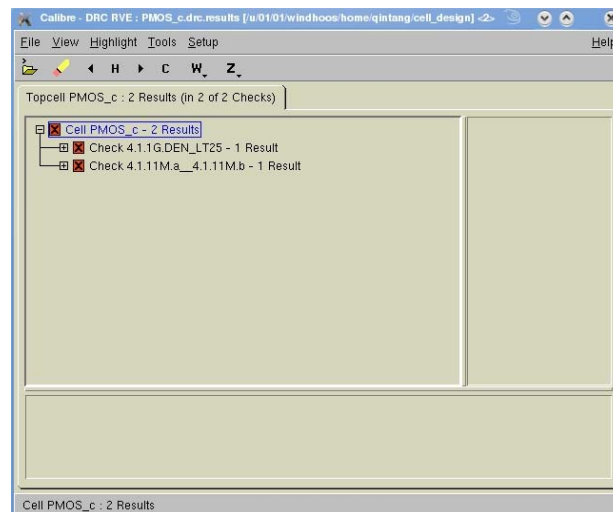
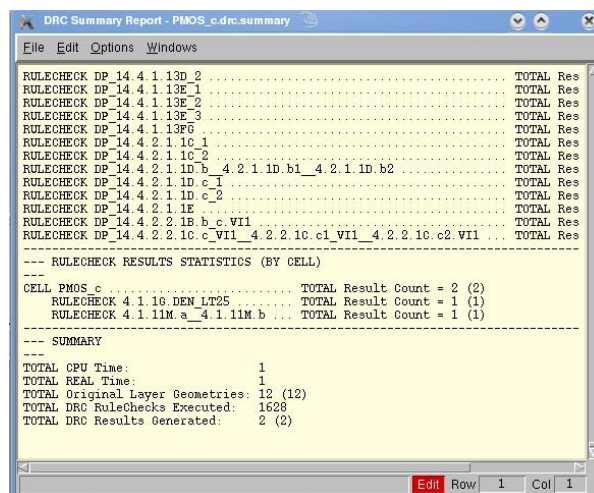

Fig 10 Calibre-DRC RVE window
Fig 11 DRC Summary Report
3. Click **Run DRC** icon on the left of **Calibre Interactive – nmDRC** window. Finally you will have **Calibre – DRC RVE** and **DRC Summary Report** windows with violations as indicated in Fig 10 and Fig 11 respectively.
4. Correct layout according to the errors and warnings in **Calibre – DRC RVE** window (Fig 10). Click errors so as to read errors in the bottom of **Calibre – DRC RVE** window (Fig 10). At the same time, the location of error will be highlighted in the layout. It's easy for you to realize where should be modified.
5. Repeat correcting layout and running DRC until there is no error shown in **Calibre – DRC RVE** window (Fig 10). However, if there are errors like 'Minimum DIFF density over 150m*150um area step 50 is 25%' and 'Maximum P+ diffusion to nearest N+ pick-up spacing is 20um' for your PMOS layout, they could be neglected. The layout checking is finished. The first error arises because it's just a small model. After designing the layout for a whole system, this requirement will